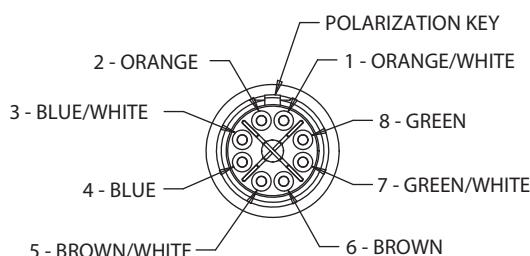

FIGURE 4
B. Insert each pair of wires into the appropriate quadrant on the isolator according to figure 3 for socket modules, and figure 4 for pin modules.
- Snap each contact into the appropriate position on the inner insulator. Refer to figure 3 for sockets and figure 4 for pins.